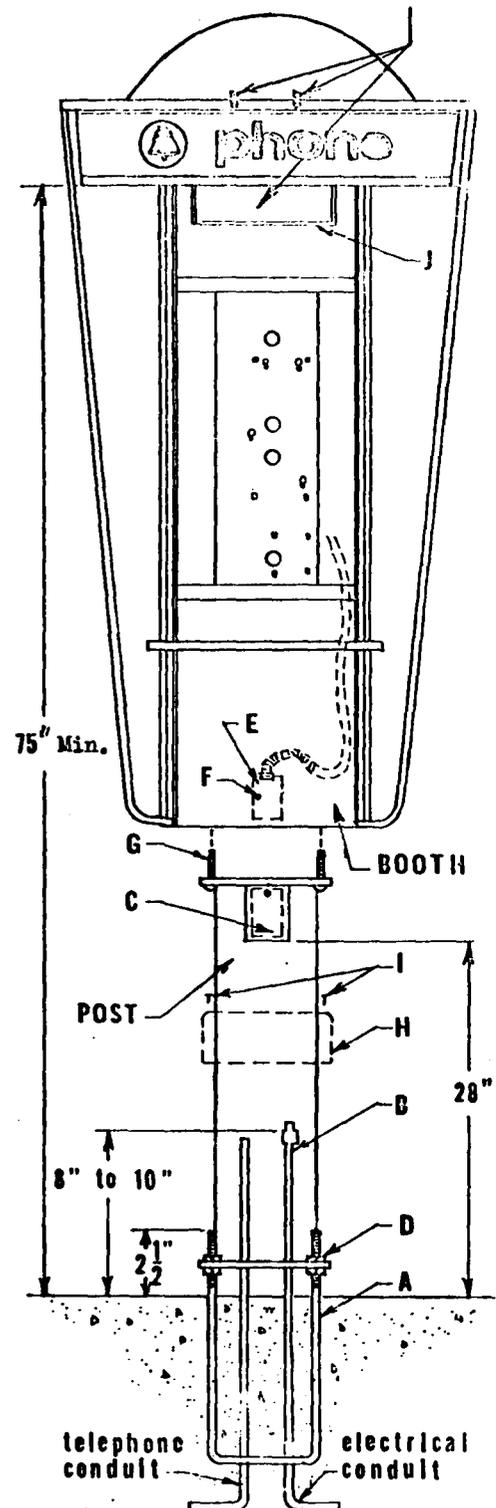

Fig. 3
3.08 Be sure to allow sufficient time for concrete to cure around anchor bolt assembly before mounting booth (see Fig. 3).
- (a) Remove access cover plate (C) on post.
- (b) Place post on anchor bolt assembly (A) between nuts (D) with access opening at top and facing desired direction. Hand tighten nuts (D).
- (d) Pull junction box (E) and pull wire out through hole in bottom of booth.
- (e) Position booth on top of post with junction box (E) and pull wire extending into center of post. Fasten booth to post with four Allen-head bolts (G) used as shipping bolts. Allen wrench is provided.
- (f) Connect conduit from (B) to junction box (E) and make electrical connections. Ground wire is provided on back of junction box.
- (g) Remove screw and washer (F) from back of junction box (E) and secure box inside post by placing screw and washer (F) through hole in post opposite access opening and into tapped hole in box.
- (h) Make telephone connections. Protector box may be installed on bracket on back of access cover plate (C) OR on subset bracket behind advertising card frame (J). Replace access cover plate (C).
- (i) Level booth with nuts (D) and permanently tighten.
- (j) Position cover (H) over anchor bolts. Align holes in cover over anchor bolts with holes in center. Hammer two drive screws (I) into anchor bolts.